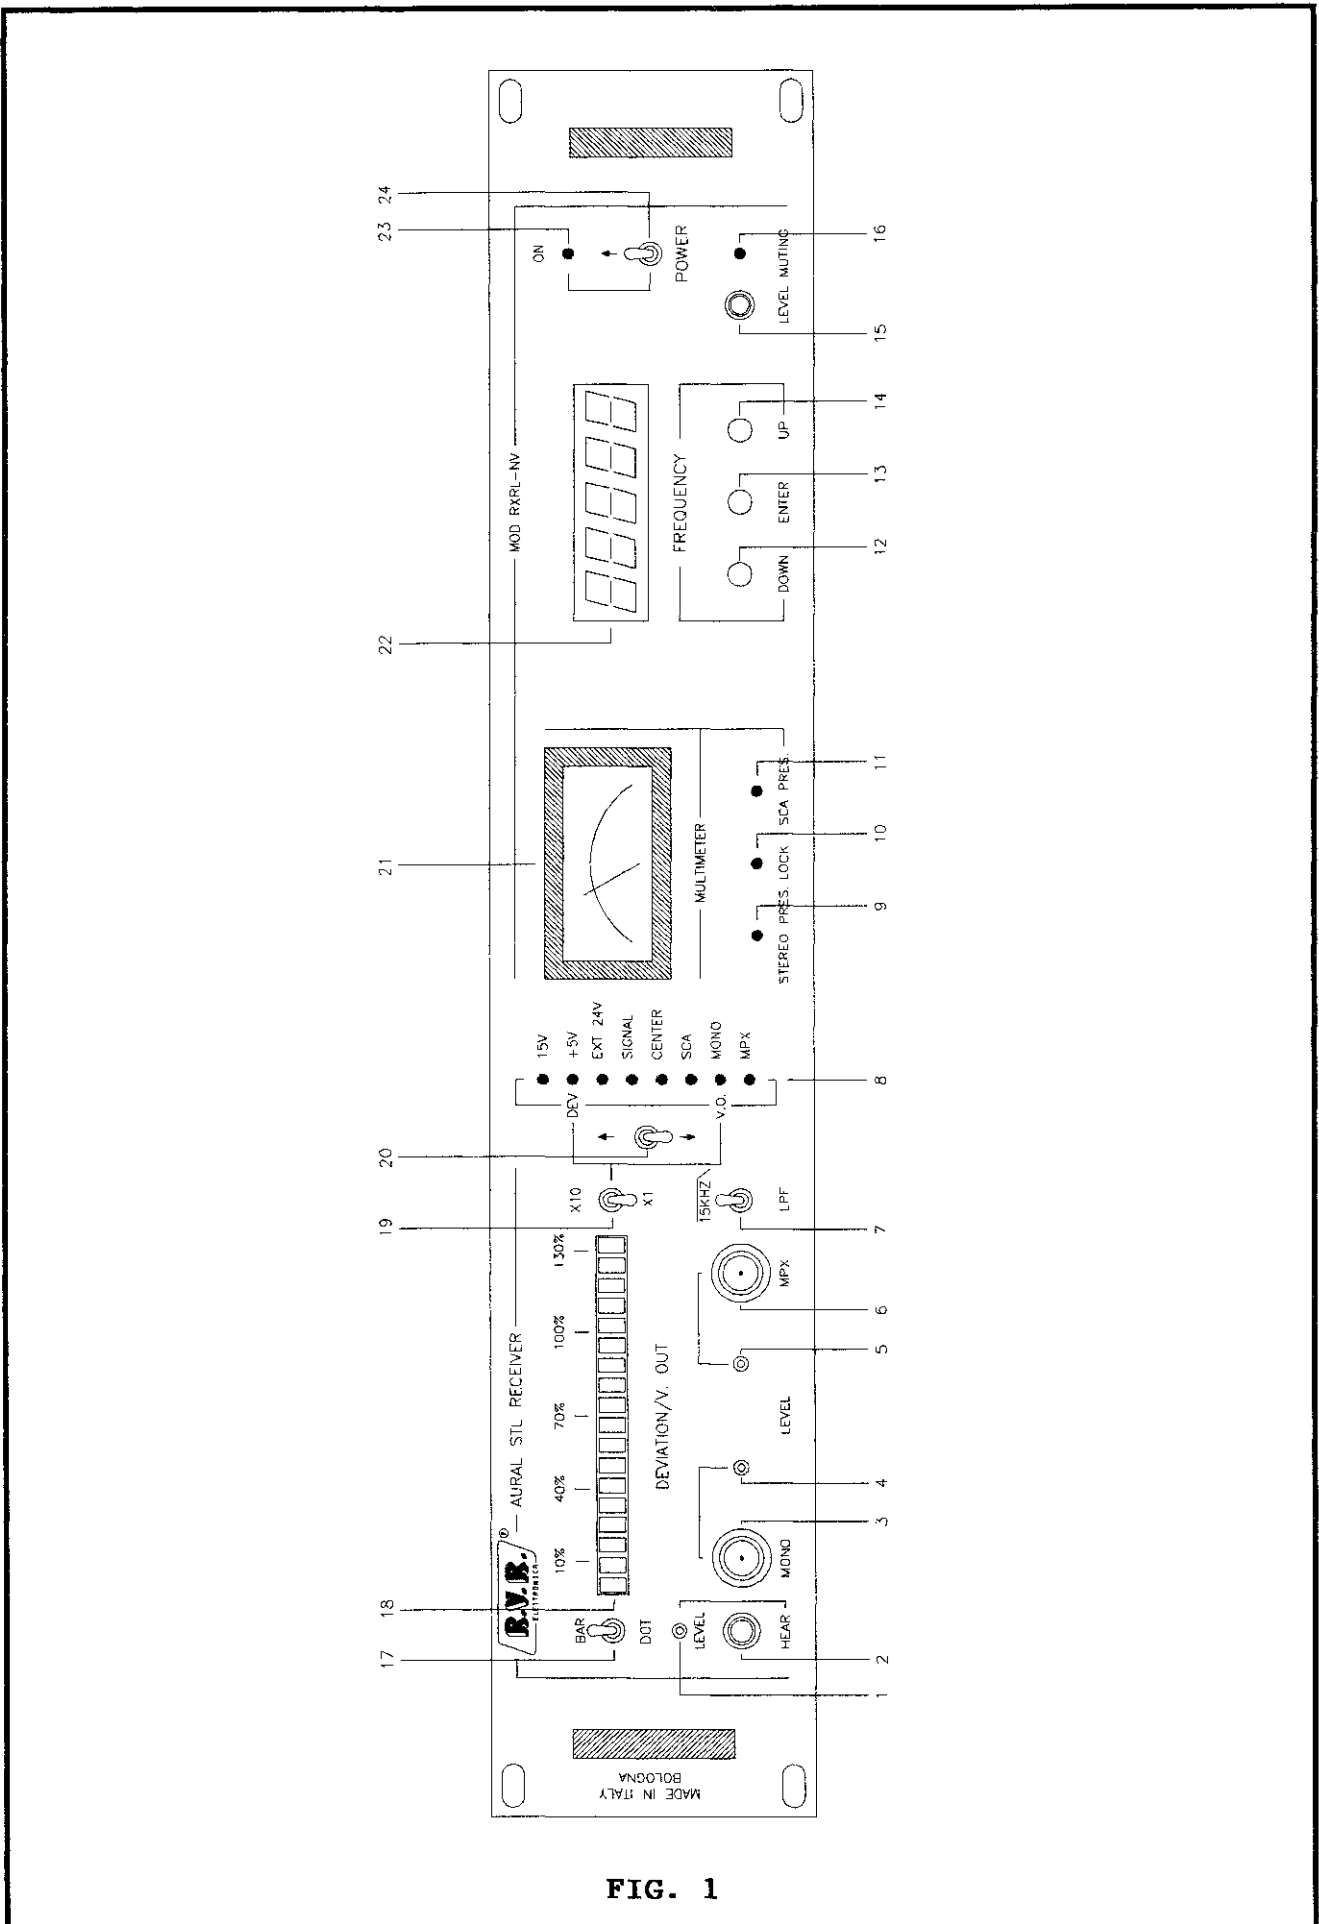

FIG. 1
The parameters are selected by a lever switch (20 Fig.1) and the selection is indicated by the legend of the green led (8 Fig.1).
This card is mounted on the right side of the front panel and allows adjustment of the receiver's muting threshold (= -83 dBm of default) and displays the muting status with a led (16 Fig.1).
FRONT PANEL VIEW DESCRIPTION (Fig. 1)
- 3) Switch the power switch (24 Fig.1) to the OFF position.
- 5) Switch the power switch to the ON position and check that the green POWER ON led (23 Fig.1), and the green led corresponding to the parameter selection SIGNAL (8 Fig.1), are both lit.
After a few seconds the frequency display (22 Fig.1) will come on and display a number (eg. 108.00) corresponding to the last operating frequency to have been programmed.
that the oscillator has locked to the operating frequency displayed. The display has five digits, 3 before the decimal point representing (from left to right) hundreds of MHz, tens of MHz and Mhz; and 2 after the decimal point representing hundreds and tens of KHz. To change this number, use the UP (14 Fig.1) and DOWN (12 Fig.1) buttons to respectively increase it and decrease it.
Once the desired frequency has been found, press ENTER (13 Fig.1) to confirm and save it.
- 6) Connect an audio analyzer to the MONO (3 Fig.1) or MPX outputs (6 Fig.1).
Modulate the carrier with a 400Hz tone at a deviation of ± 75 KHz. Check that the analog meter (21 Fig.1) displays a reading of 1mV.
- 7) Select CENTER with the selector (20 Fig.1) and check that the received signal is centered.
Set the modulation display gain (20 Fig.1) to 130% f.s.d.
Connect an audio analyzer to the MONO output (3 Fig.1).
Check that the bar-graph display (18 Fig.1) lights up to the first red led, indicating 100% deviation (equivalent to 75 KHz).
- 9) Inject a signal with a level of -83 dBm and adjust the MUTING trimmer R2 (15 Fig.1) until the red muting led switches on. The audio signal will be automatically disabled and the Modmeter bar-graph display will go out.